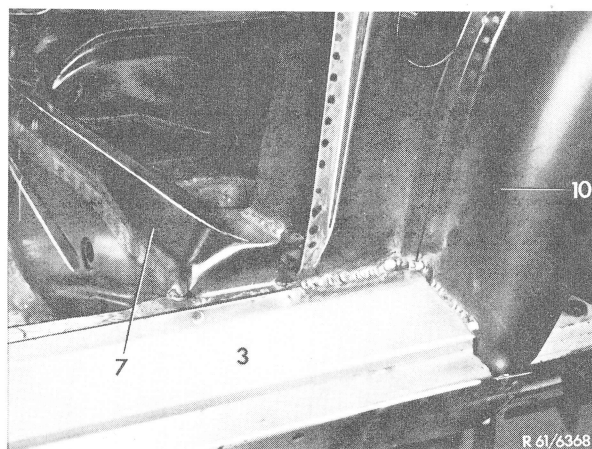

Fig. 8
23 Weld wheel housing (10) to side member (3) and cross member inner shell (7) (Fig. 8).